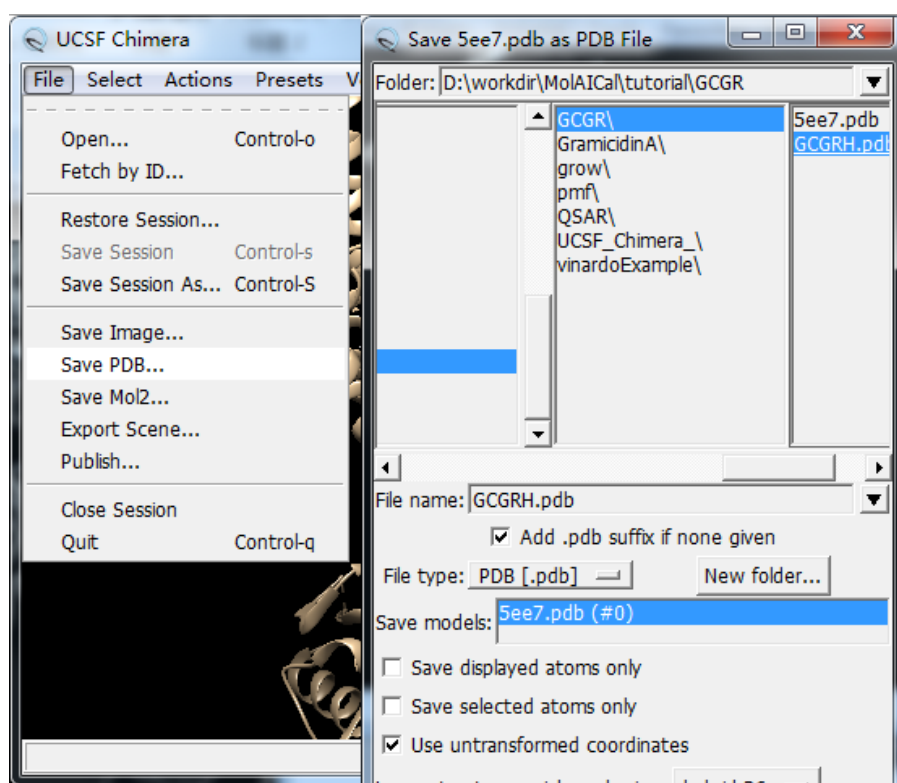

Figure 5. Saving the coordinates of receptor and ligand as PDB file.
5. Save the coordinate: GCGRH.pdb. Saving GCGRH.pdb can be as a checkpoint in the process of drug design. You can start this step to deal with GCGR directly (see Figure 5).